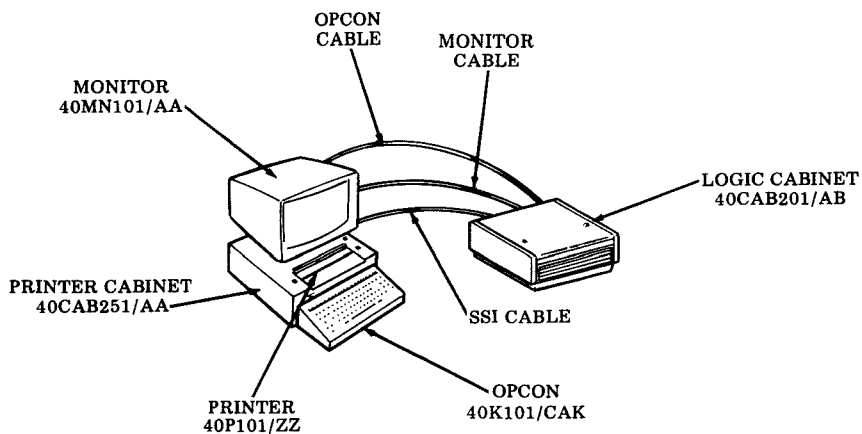

Fig. 6
3.05 Keyboard Display Printer (KDP) With Adjacent Logic (Fig. 6)